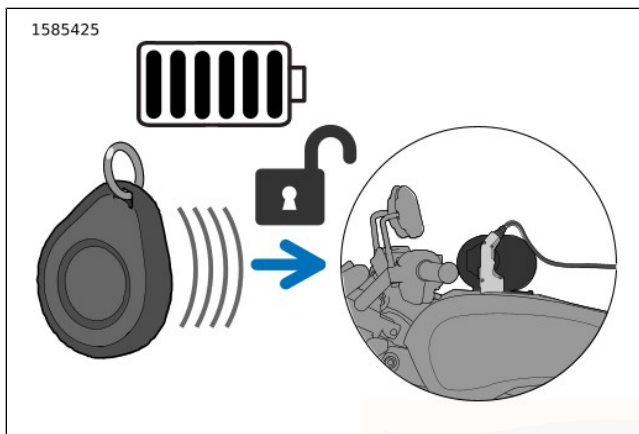

Figure 13. EVSE Coupler - Fob Present to Unlock Coupler
6. Disconnect COUPLER when the charge is complete by bringing fob to motorcycle, pressing the release button on the COUPLER and removing it from the vehicle. See Figure 13 and Figure 14.